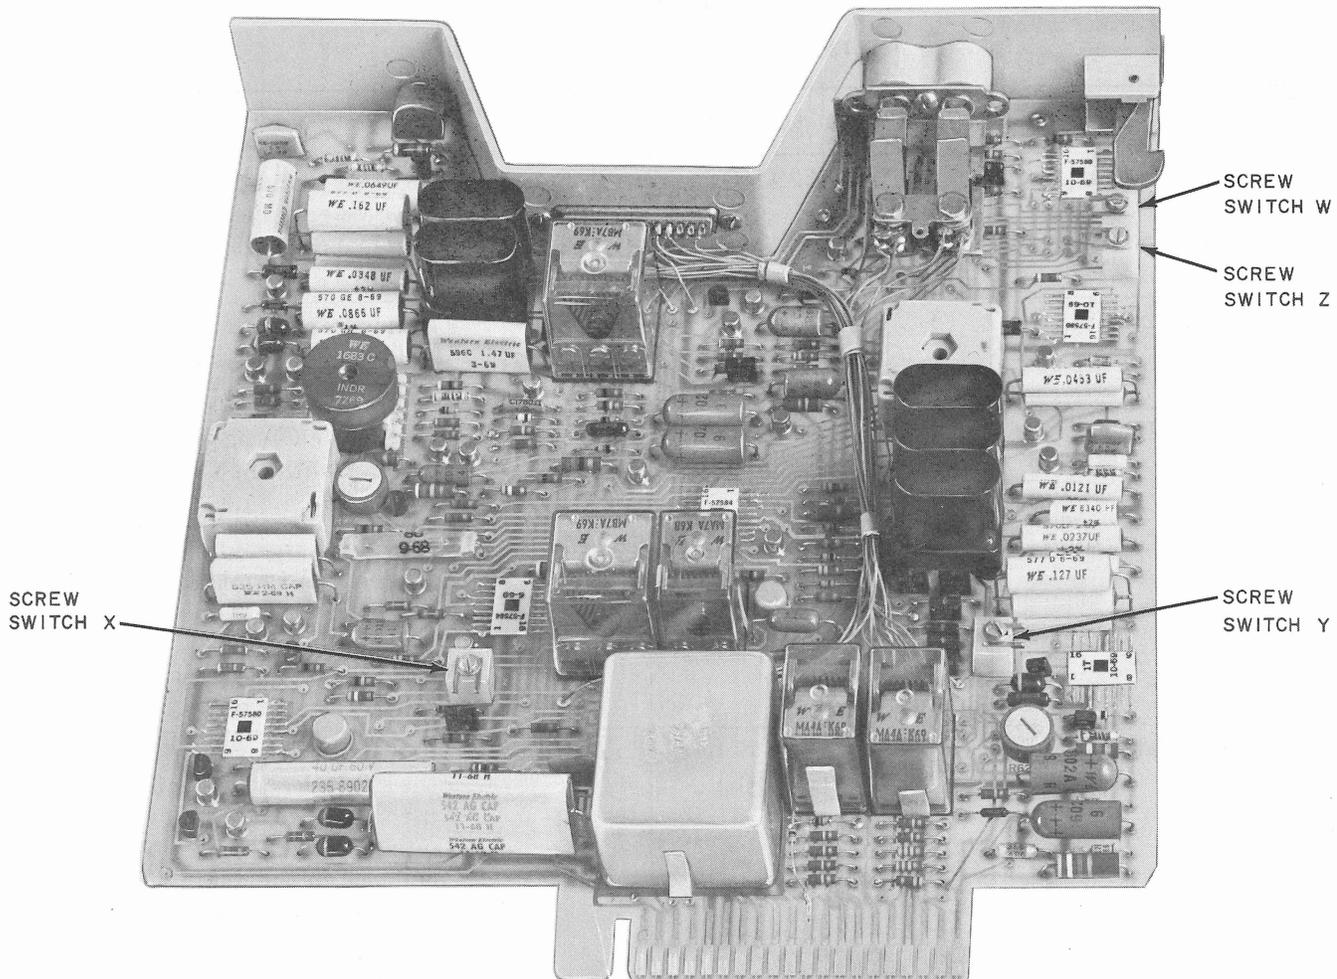

Fig. 1—Data Set 113B-L1—Location of Screw Switch Options
2.01 The 113-type data station is provided with six options that may or may not be provided in accordance with the service order or circuit layout record card. Two of the options are associated with the 32A1 data mounting and four are associated with data set 113B-L1. Each option is installed by closing the screw switch(es) associated with that option. Refer to Table A and Figure 1. When an option is not specified, ensure that the screw switch(es) associated with that option is in the open position (screw turned fully counterclockwise).
‡ See Fig. 1 for location of screw switches on data set 113B-L1.